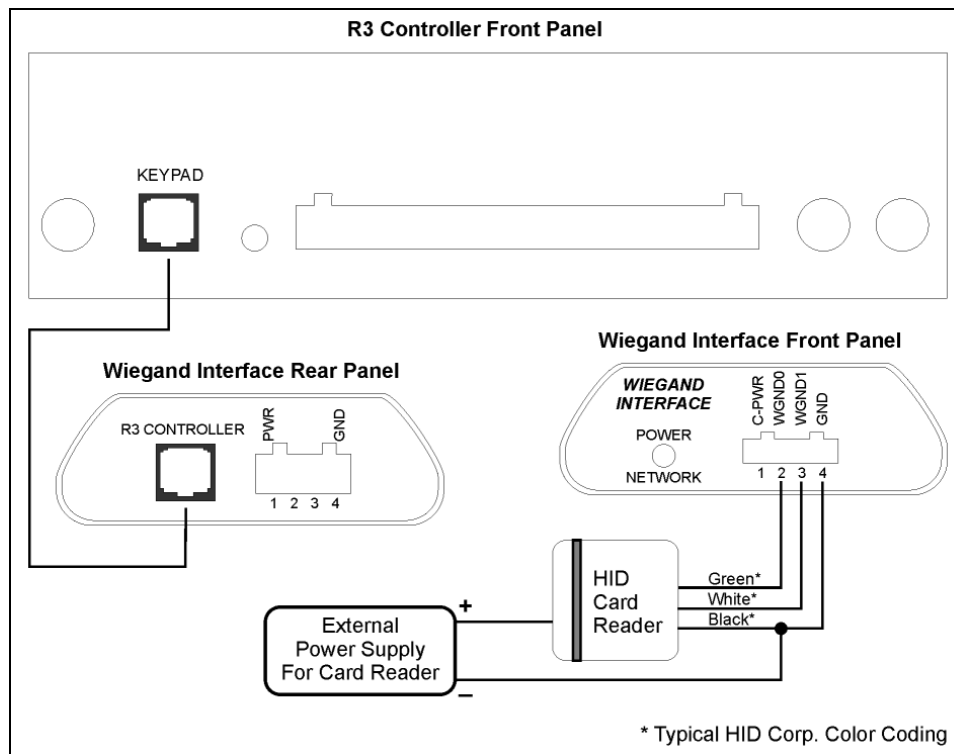

Figure 3-9: Wiegand Wiring Diagram (Card Reader Powered Externally)
Note: *The Wiegand interface itself is powered by the keypad jack. If a keypad is being used along with the Wiegand interface, or if an auxiliary device is being connected to the interface, we recommend that you use a supplementary +12VDC power supply connected to the power terminals located on the back of the interface. See Figure 3-9 on page 3-20.*
- 4 Refer to Figure 3-9 on page 3-20. If the card reader will be powered externally: